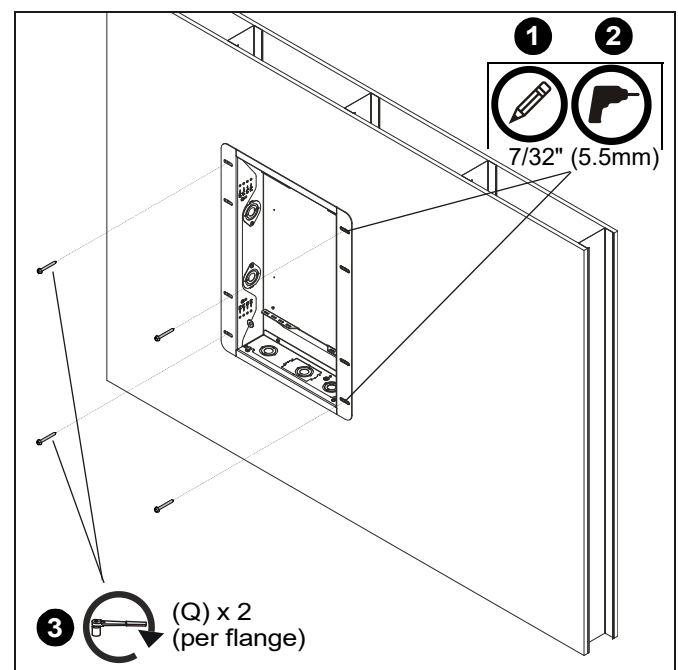

Figure 17
3. Use two 5/16 x 2-3/4" lag bolts (Q) to secure each flange to studs. (See Figure 17)